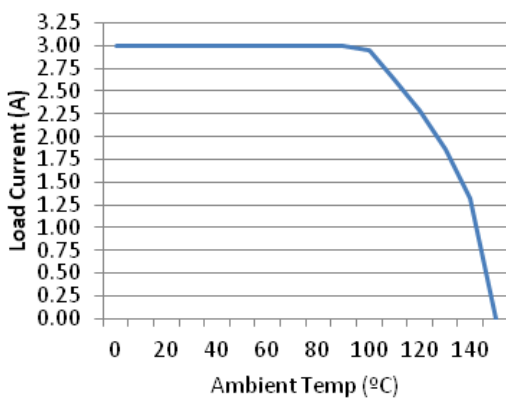

Figure 8. Q1 SOA at VGS_Q1=-4.5V
- T_{J-max} limits and other related conditions apply. Refer to SOA charts, Figure 8 through Figure 13